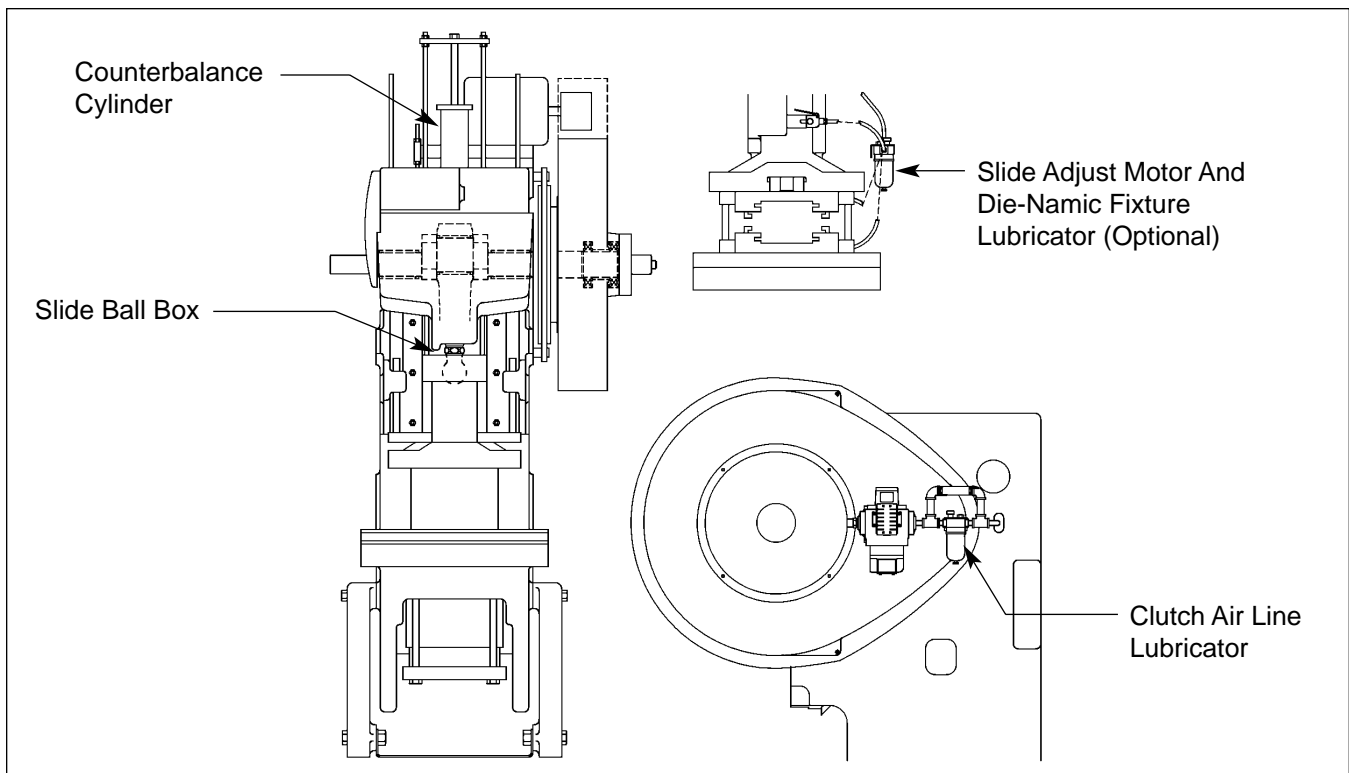

Figure 2D. Press initial lubrication.
2. Lubricate the counterbalance cylinder (if furnished). Fill the counterbalance rod cup (located near the top of the cylinder) with Minster Lubricant No. 1. (See Figure 2D.)
3. Pour one-half pint (0.24 liters) into the slide ball box. (See Figure 2D.)
4. Fill clutch/brake air line lubricator and slide adjust motor/die-namic fixture air line lubricator (if supplied) with an approved lubricant meeting the specifications of Minster Lubricant No. 3. (See Figure 2D.) (Refer to "Servicing the Pneumatic System" in Section E for further information.) **Do not over fill.**